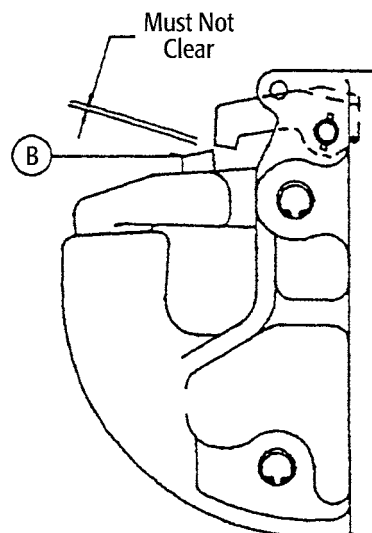

Fig. 3
1. Grasp the Lock Actuator (8) and without compressing the Spring (6) rotate the Actuator handle to lift the Lock (3) until it stops against the Body undercut (A). The "tooth" of the Lock must not clear the stop (B) on top of the Jaw (4). If the lock clears the stop (B) as shown in Fig.3:
- a. Inspect the undercut (A) on the Body, if the undercut is not clean and square the entire hook should be replaced.